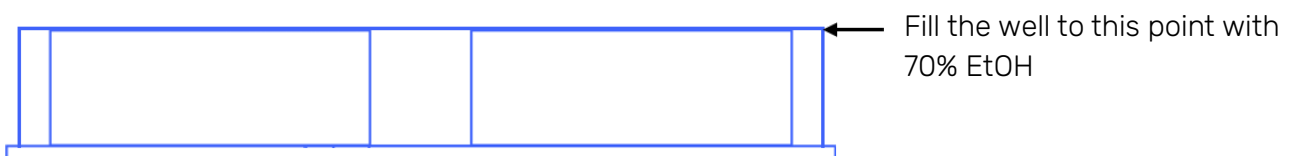

Figure 2: Side view diagram of CorePlate™ 6W showing the fill level of the wells.
1. **70% EtOH Application.** Fill the Wells of CorePlate™ 6W completely with 70% ethanol up to the rim of the Well Wall (Fig. 2). Also, thoroughly wet the area in between the wells with 70% EtOH ensuring that all edges are covered with EtOH.